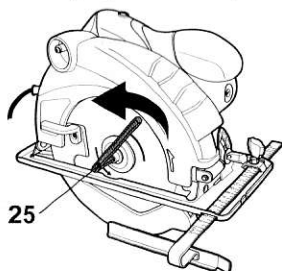
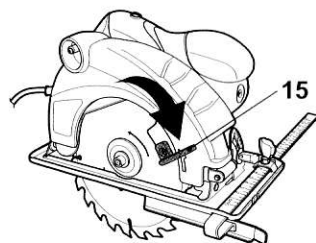

Fig. 13
Fig. 14
- > Lock the spindle by pressing the spindle lock button (23) and loosen the hex bolt (12) anticlockwise with the hex key (25) (Fig. 13).
- > Remove the hex bolt (12), washer (11) and locking flange (10) from the spindle.
- > Open the lower guard (9) completely by moving the retracting lever (15) forward and hold it in position while removing the saw blade (13) from the spindle (Fig. 14).